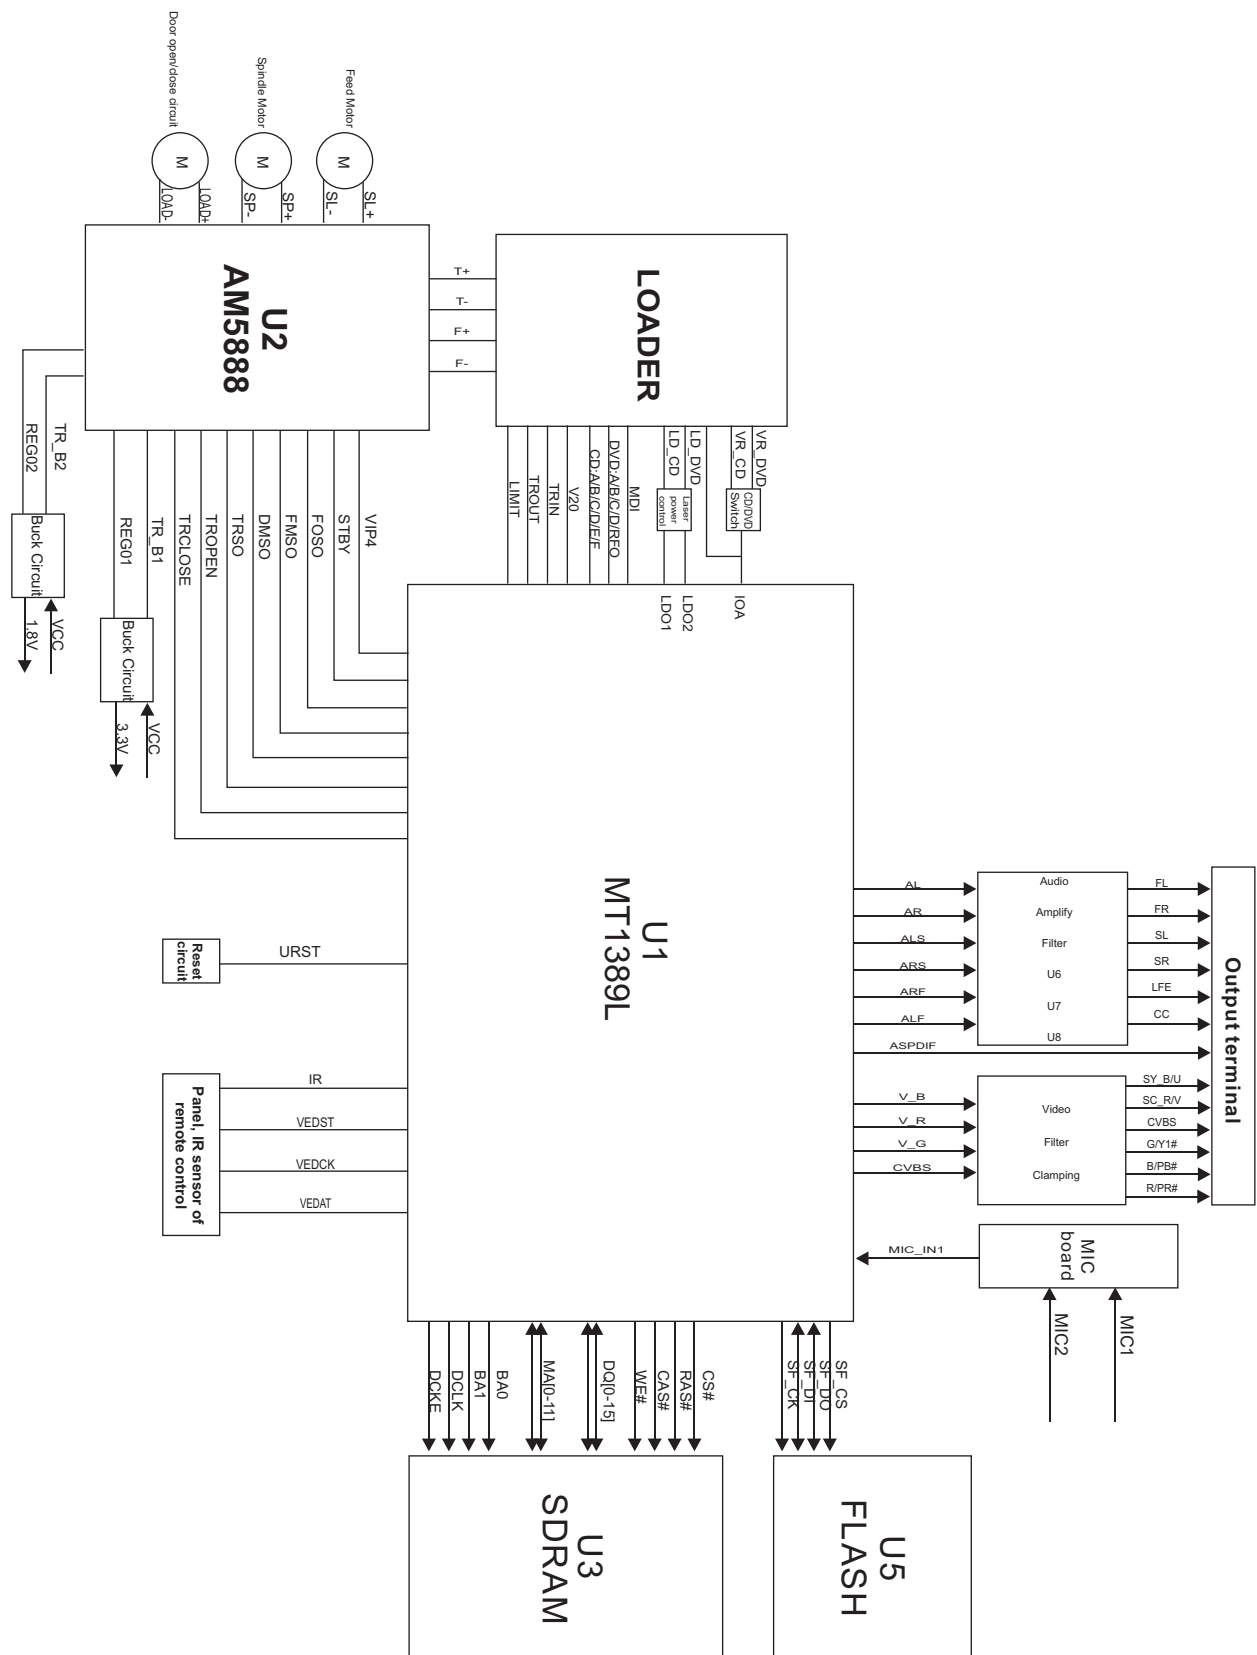

Figure 3.2.1 Block diagram of DV815X(RU)
Block diagram for DV815X(RU) player is shown in figure 3.2.1.